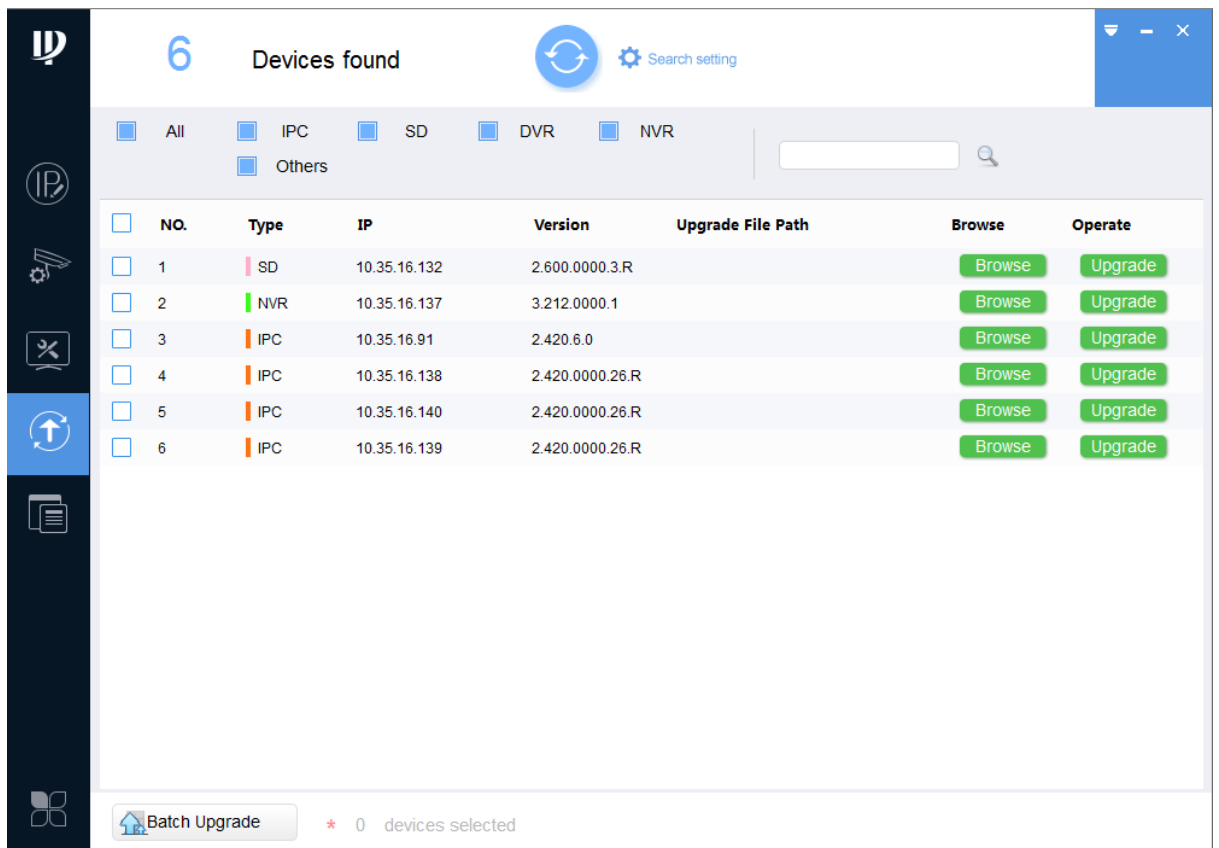

Figure 4-2
Step 5 Click  and the system displays upgrade interface, as shown in Figure 4-2.